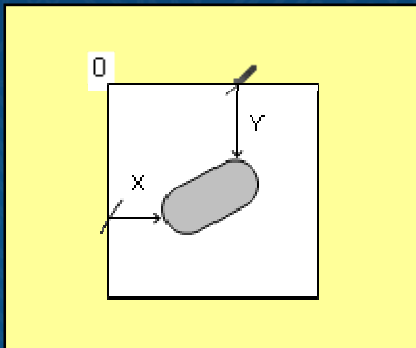

Fig 1
1. Measure the Length X & Y value as shown in Figure 1. Perform measurements on dice illustrated in Figure 2.